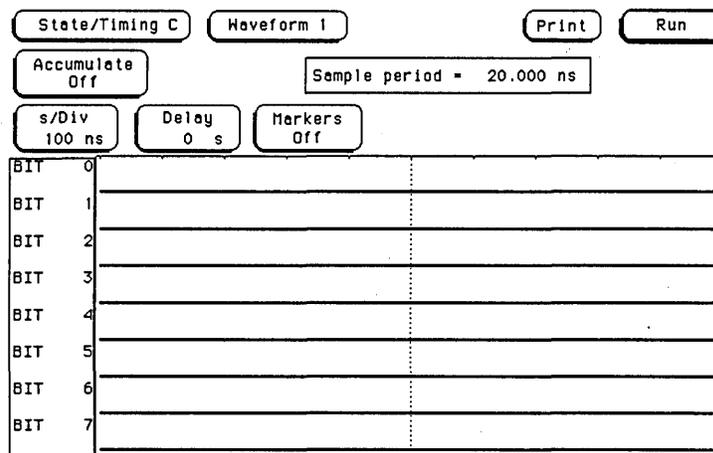

Figure 3-43. Waveform Screen
8. Touch **Run**. Data displayed on the **Waveform** screen will be all low for the channels under test as in figure 3-43.
13. Touch **Run**. Data displayed on the **Waveform** screen will be all low as in previous figure 3-43.
18. Touch **Run**. Data displayed in the **Waveform** screen will be all low for pod under test as in figure 3-43.